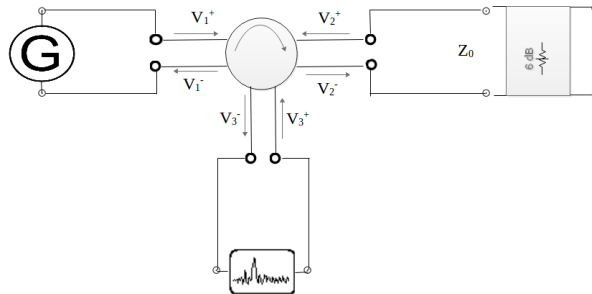

Figure 7: Measure transmission loss @ port3 ,6dB @Port2
- The set up would like figure 7.